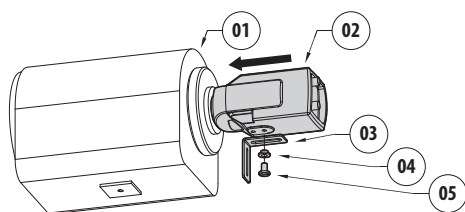

Fig. 8
It is possible to fasten the H-20 spacer (02) to the lens. Connect the camera and fasten the L-shaped bracket (Fig. 8, page 15). Interpose a plastic spacer (01) of the required thickness and fix it by means of washer and screw (03).